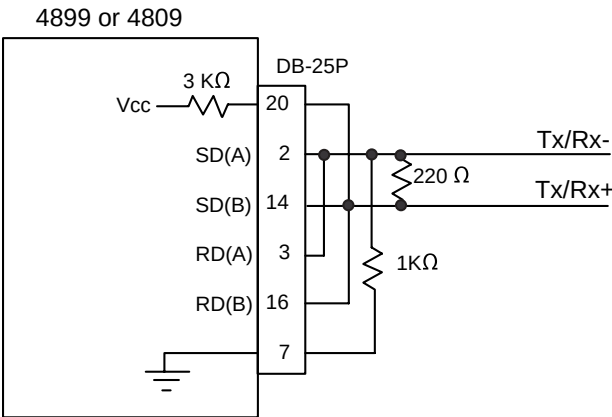
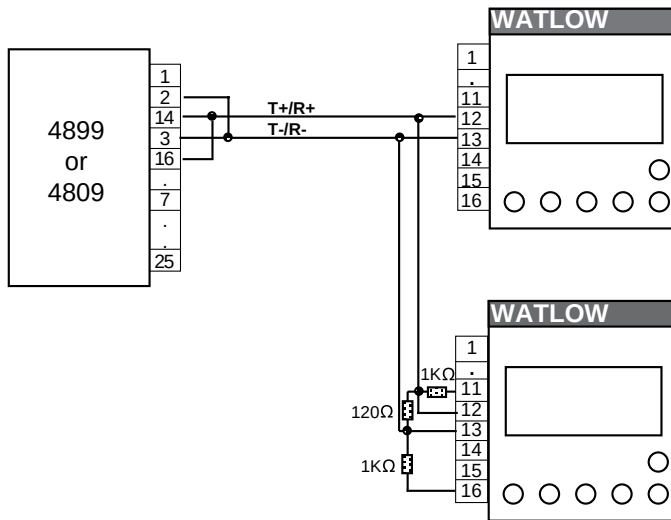

Figure 2-11 4899/4809 Pullup/Pulldown Resistor Connections
Figure 2-12 RS-485 Network Connections to Watlow to Watlow F4 Controllers
Two wire RS-485 networks also need pullup, pulldown and load resistors to bias the lines in the 'mark' state when neither unit is transmitting. This prevents each receiver from inputting noise when nothing is being transmitted. Use one bias network for short cables of 200 feet or less. For longer cables, use a bias network at each end of the cable. Set the bias voltages to approximately 2 Vdc and 2.5 Vdc. Use resistors with an approximate value of 500 ohms/volt.. Figure 2-12 shows a method of making the RS-485 connection to a 4899 or 4809. Figure 2-11 uses the 4899/4809's internal pullup resistor available at pin 20 to pullup the SD(B) and RD(B) lines. A 1 kohm resistor from SD(A) and RD(A) to ground is the pulldown resistor. A 220 ohm load resistor completes the circuit.
Figure 2-12 shows an example of a single 4899 or 4809 driving two Modbus devices over a RS-485 network. In Figure 2-12, the termination network uses 5 Vdc and ground provided by the Watlow F4 Temperature Controllers